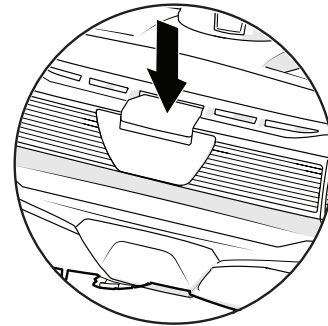

Figure 12. Latch Release Button
1. Push the latch release button on the top of the cleaner (Figure 12) to open the cover.